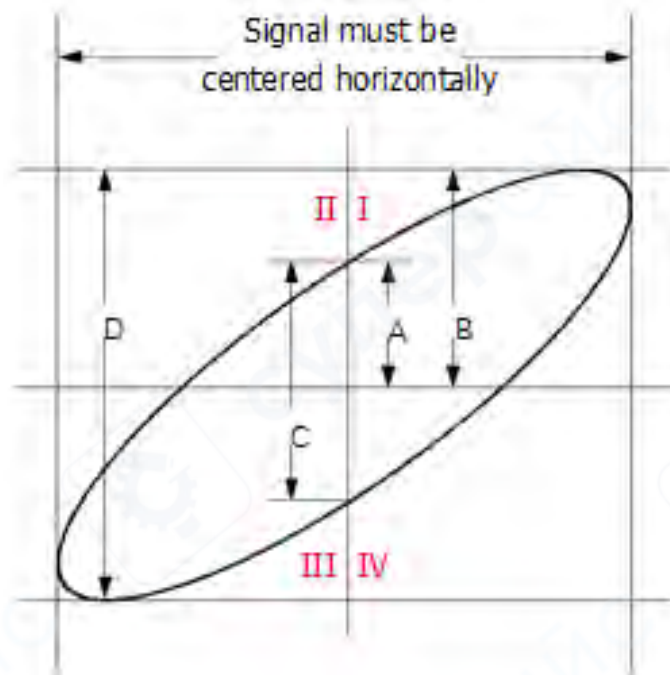

Figure 7.1 Measurement Schematic Diagram of Phase Deviation
4. Observe the measurement result shown in the figure above. According to the measurement schematic diagram of the phase deviation (as shown in Figure 7.1), $A/B(C/D)=1$. Thus, the phase deviation angle of the two channel input signals is $\theta = \pm \arcsin 1 = 90^\circ$.